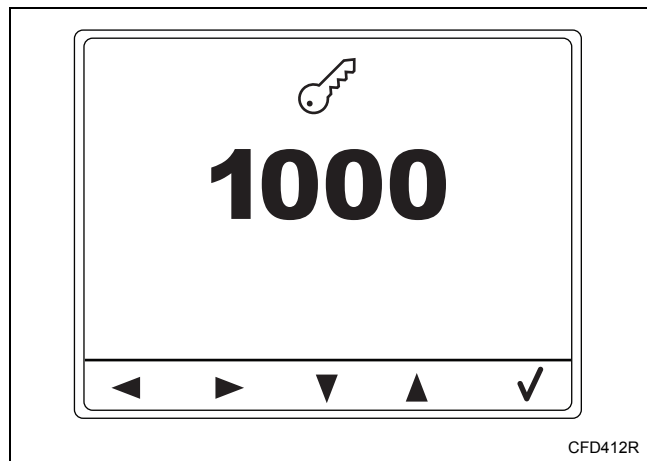

Figure 68
1. Select by pressing the keypads below the Left/Right icons, edit by pressing the keypads below the Up/Down icons, and confirm by pressing the keypad below the Check icon. Refer to *Figure 68*.